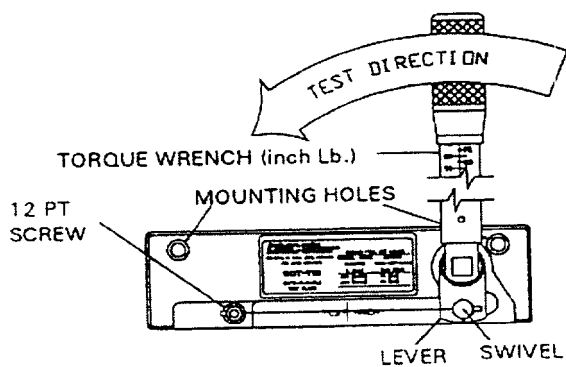

Figure 34. Torque Verification Fixture and Torque Wrench
57. **TORQUE FIXTURE.** Use the torque verification fixture and a calibrated torque wrench (0-155 inch-pound scale) to verify the safety cable tool indenter adjustment. Thread a new piece of safety cable into the torque verification fixture (Figure 34), and crimp a ferrule onto the cable with the safety cable application tool that is being tested. This process is the same for all hand and pneumatic tool models.